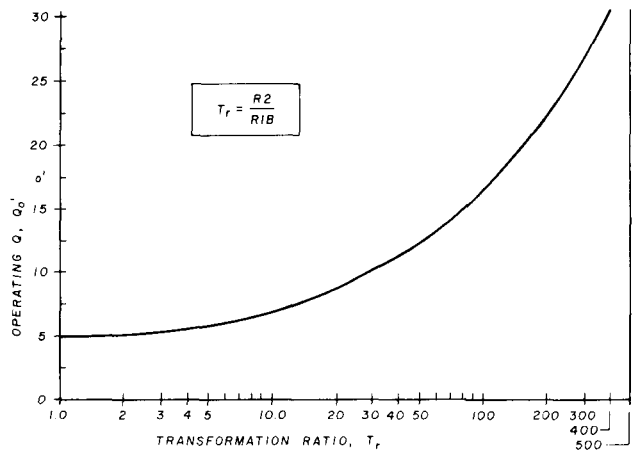

fig. 3. Operating  $Q$  ( $Q_o$ ) of a pi network versus the impedance transformation ratio,  $T_r$ .
**Equation 11** is unique, and indeed remarkable, because it shows that  $Q_o'$  is dependent *only* upon the transformation ratio,  $T_r$ , a value readily obtained by dividing  $R2$  by  $R1B$ . Therefore, a graph of **equation 11** is universally applicable to all pi networks that fall within the range of the scales chosen for  $Q_o'$  and  $T_r$ ! Thus the graph of **fig. 3**, or **equation 11**, is invaluable for determining a value for  $T_r$  that will result in an acceptable value of  $Q_o'$ . This value of  $T_r$  is then used in **equation 9** to obtain the value for  $X_L$ .
1. Determine value of  $Q_o'$  for desired value of  $R1B$ ; use **fig. 3** or **eq. 11**. (For prototype network  $T_r = 96.15$  when  $R1B$  is 26 ohms, thus from **fig. 3**,  $Q_o' = 16$ ).